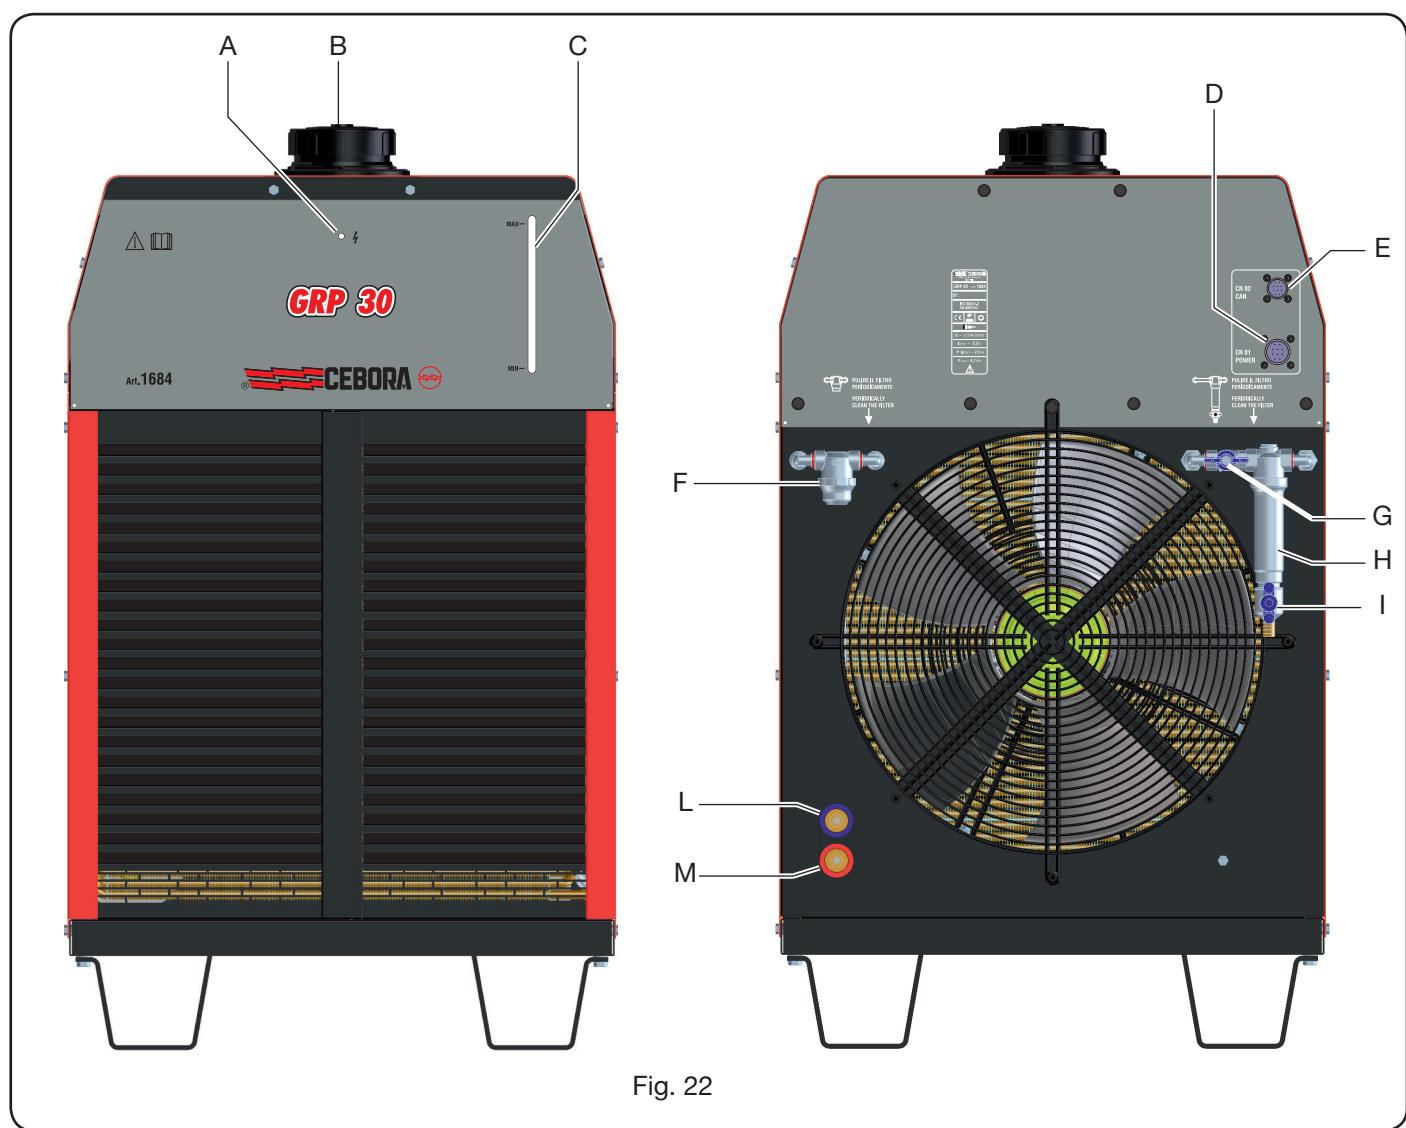

Fig. 22
4.2 DESCRIPTION OF COOLING UNIT PANELS (FIG. 22)